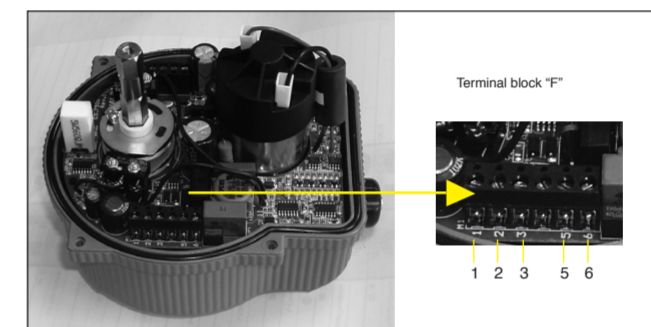

Fig.3 Plate of supply 100-240V AC and particular of terminal block "F"
4.3 Electrical connection for models with supply at 100-240V AC 50/60Hz (fig. 3)